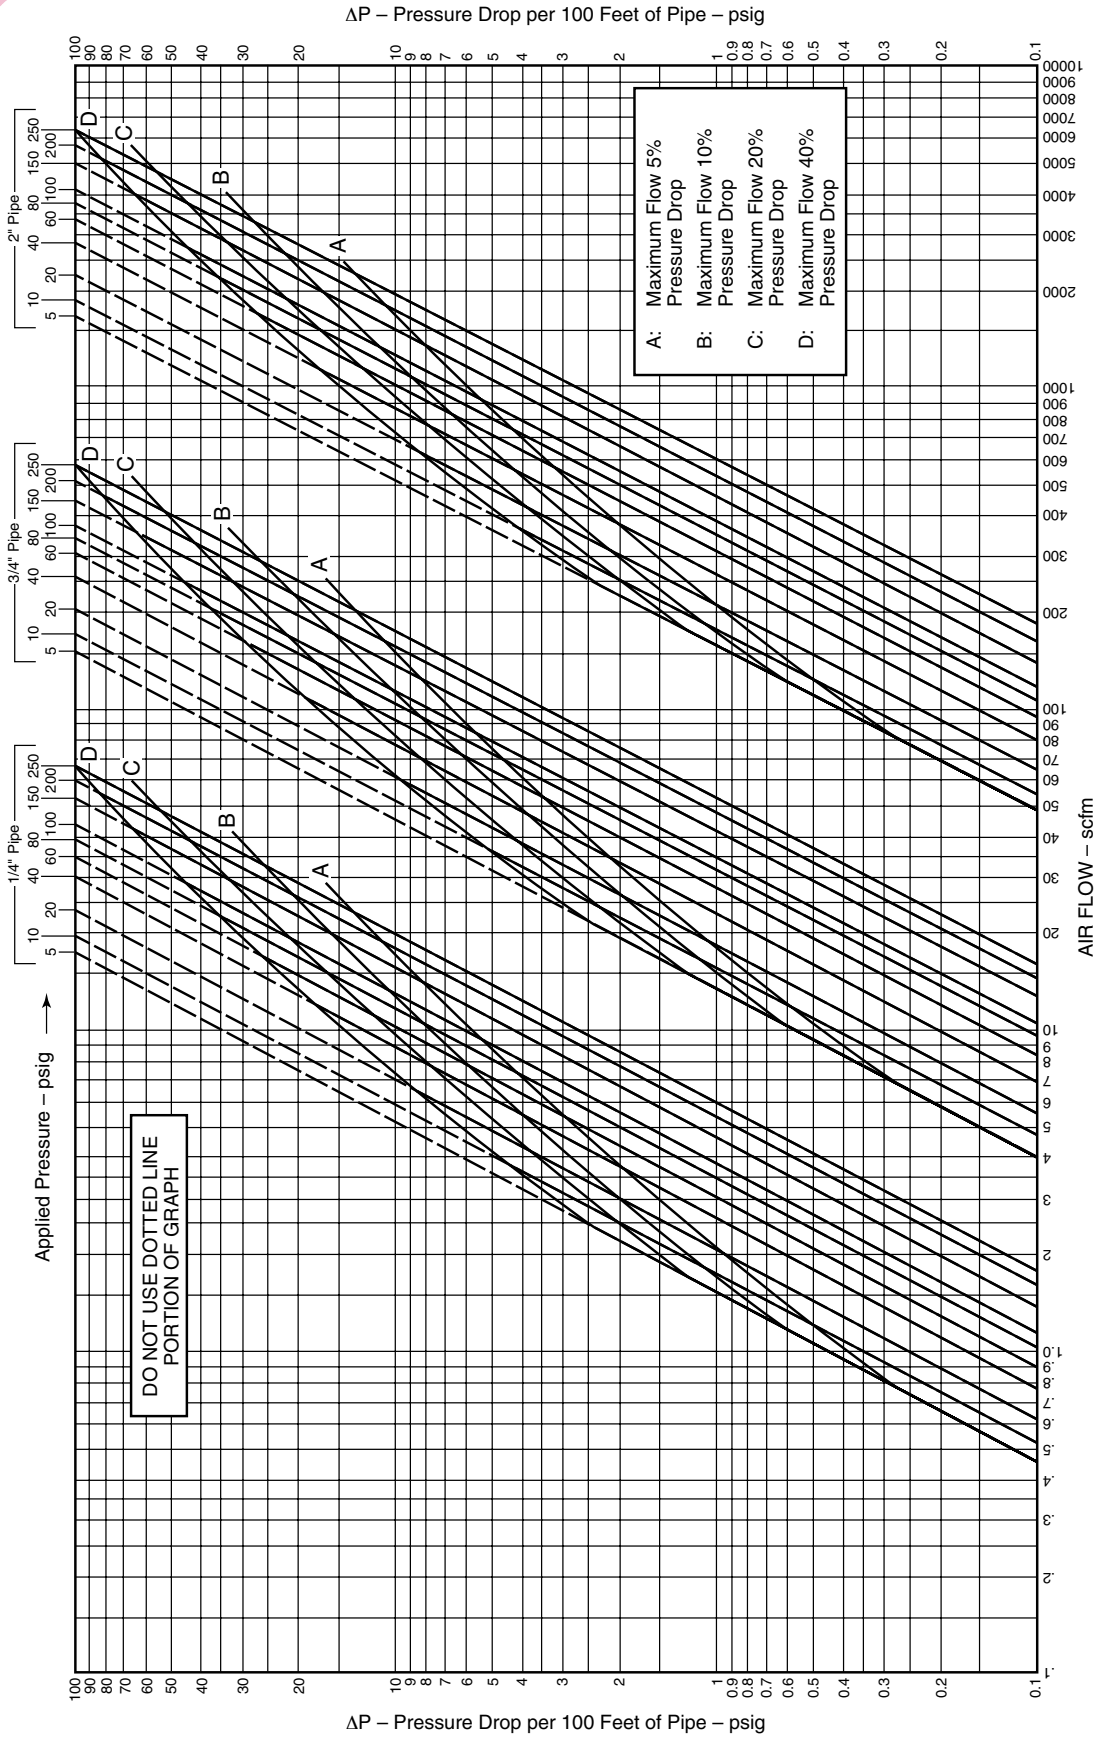

Figure 4. Air Flow – Pressure Drop Graph (1/4", 3/4", 2" Pipe)
1. Refer to Figure 4—follow the vertical 150 scfm line until it intersects the diagonal 100 psig applied pressure line.